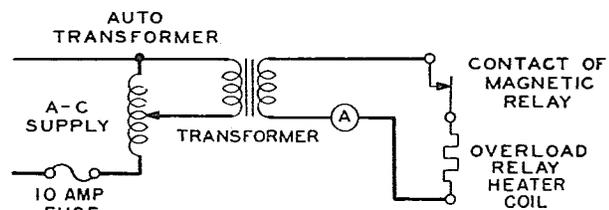

Fig. 11 - Test Circuit For Overload Relays
(1) To check the overload relay on a single-phase starter or a 3-phase starter, open the ac supply at the switch and fuse unit by removing fuses or opening the motor circuit disconnect switch. Connect the test circuit (see Fig. 11) across the heater coil of the overload relay. When connected across the L and T terminals, block the magnetic contactor of the starter operated. With the test auto-transformer, adjust the current to 250 per cent of the rated motor full-load current. Observe visually the operation of the relay. If the relay does not operate within 5 minutes, replace the entire relay. If no current flows